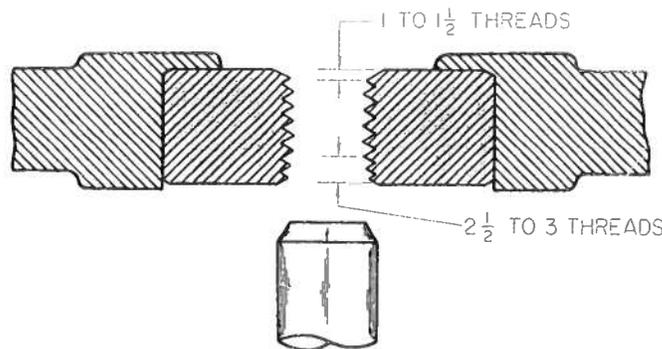

Fig. 20-8 The starting side of the threading die has the most tapered threads.
5. Place the tapered, or starting side, of the die on the rod (Fig. 20-8).